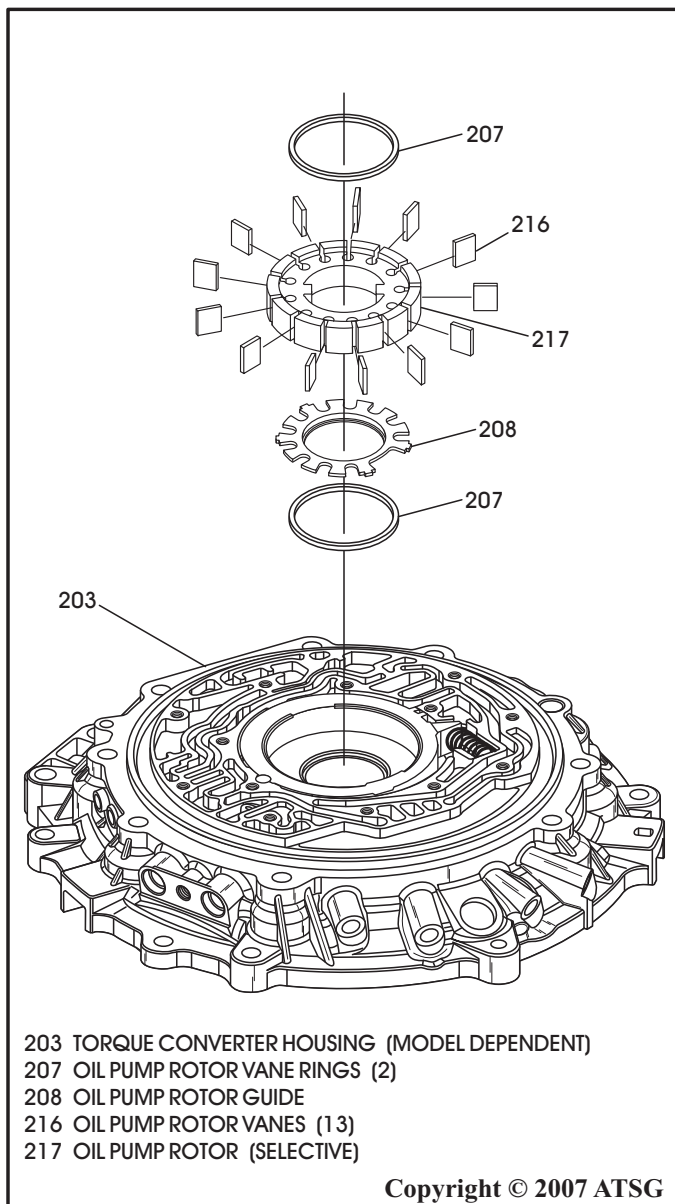

Figure 71
34. Install one of the oil pump vane rings into the pump pocket, as shown in Figure 71.
36. Install the 13 oil pump vanes into their slots in the rotor, as shown in Figure 71.